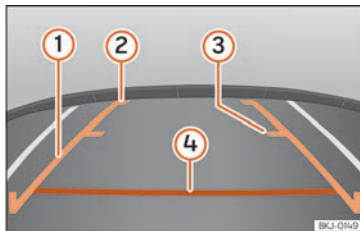

Fig. 299 Display on the Easy Connect system screen: guide lines.
- Vehicle load modifies the representation of the guide lines »» Fig. 299. The width represented by the lines decreases with vehicle load. Pay special attention to the surroundings when the inside of the vehicle or the luggage compartment are loaded.
Meaning of the orientation lines »» Fig. 299